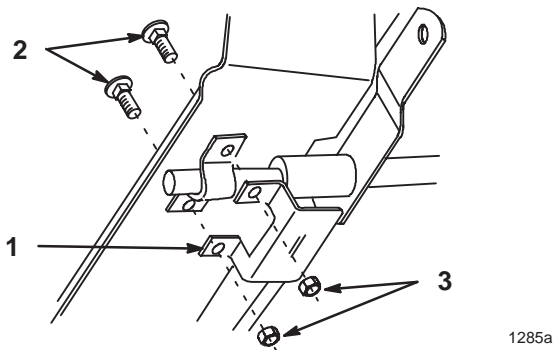

Figure 15
19. Remove lock nuts from foot rest cross shaft (Fig. 15). Save lock nuts for use when installing brackets.
20. Replace existing carriage bolts, under mats, with (4) 5/16 x 1 in. carriage bolts (Fig. 15).
21. Locate brackets under foot rests with 90 degree bend to inside (Fig. 15). Secure with previously removed lock nuts. Discard short carriage bolts.